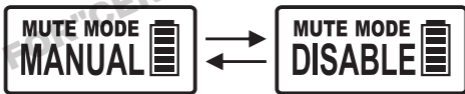

Fig. 9
6. MUTE MODE Setting, Fig. 9:
- (A) MUTE MODE can be changed to MANUAL or DISABLE.
- (B) Press MODE button to access MUTE MODE parameter. Press SET button, the parameters start flashing. Press SET button again, the parameter will change circularly. Press MODE button to save or the parameter saves automatically when flashing stops.
- (C) MANUAL mode indicates MUTE button can be muted.
- (D) DISABLE mode indicates MUTE button cannot be muted.